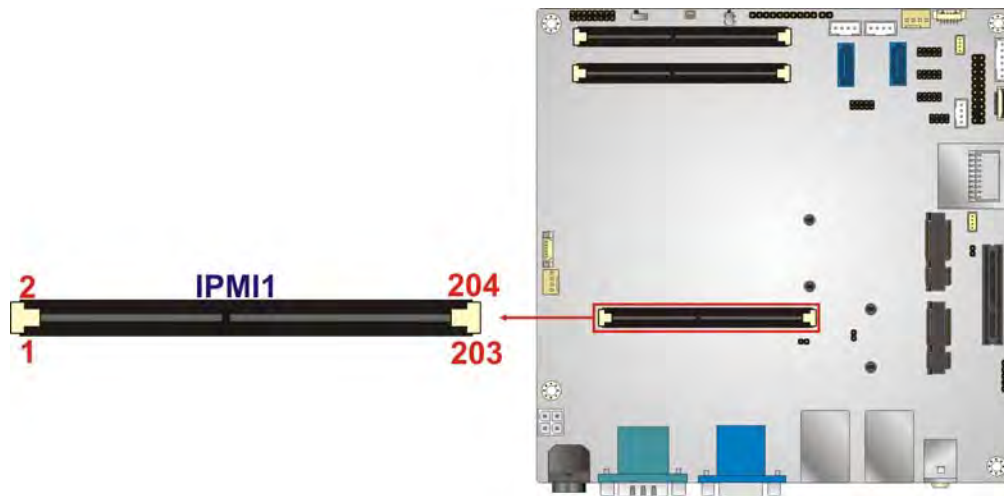

Figure 3-13: IPMI Slot Location
- CN Location: See **Figure 3-13**